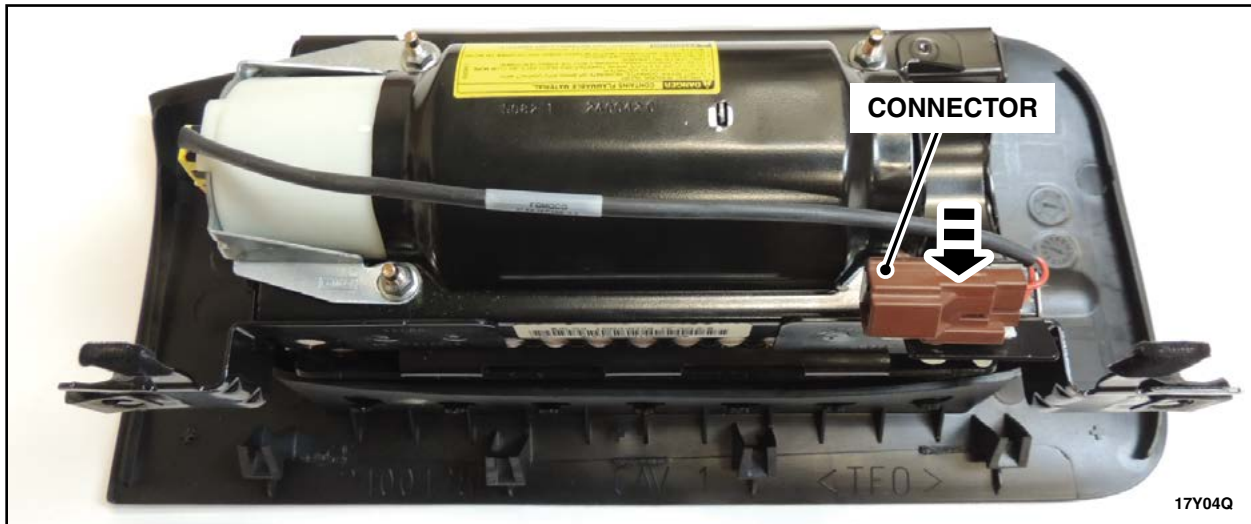

FIGURE 19
14. Install inflator harness connector to the air bag assembly bracket. See Figure 19.